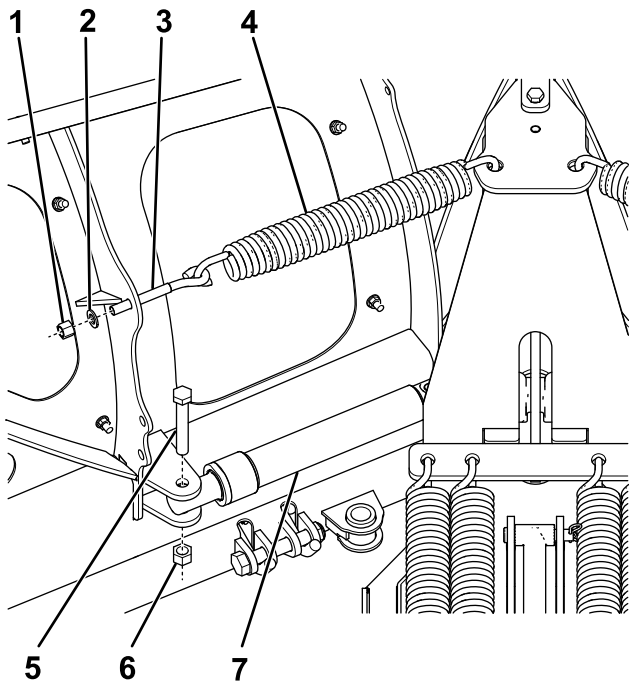

**Figure 9**
- Secure the 2 angle cylinders to the blade center using a bolt (5/8 inch) and top locknut (Figure 9).